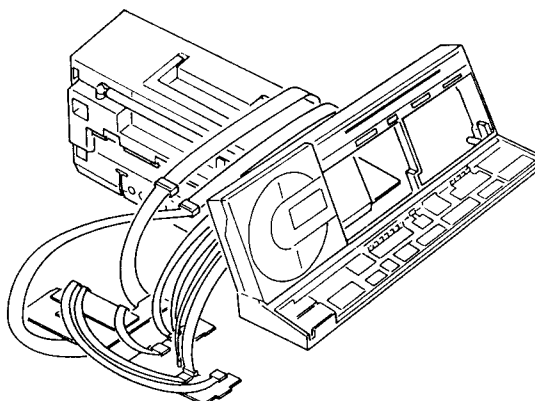

Fig. 3-11
- ③ Lean the front cabinet against the set as show in Fig. 3-11.
- ④ Place the test disc (SZZP1014F) and turn on the power supply switch.